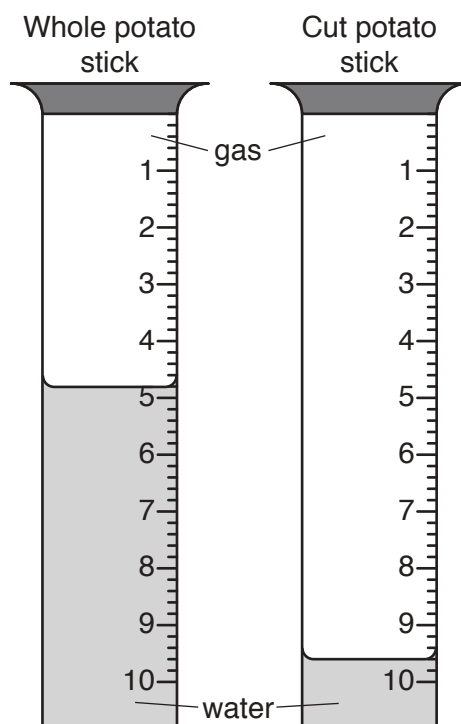

Fig. 1.3
- Step 11 Steps 4 to 8 were repeated with the remaining whole potato stick. The volume of oxygen gas collected is shown in Fig. 1.3.
- Step 12 Steps 4 to 8 were repeated using the remaining potato stick that had been cut into eight pieces. The volume of oxygen gas collected is shown in Fig. 1.3.
- Step 13 Read the volume of oxygen gas collected in the two measuring cylinders shown in Fig. 1.3 and record the results in your table in **1(a)**.
- (a) Prepare a table to record the results shown in Fig. 1.3. Complete the table by entering the results.